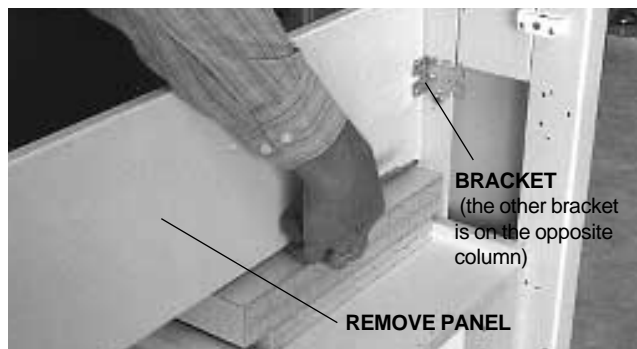

FIGURE 3
- Using a Phillips screwdriver, remove the top screw and loosen the bottom screw on both sides of the accessory panel (see Figure 3), then remove the panel and attached brackets.